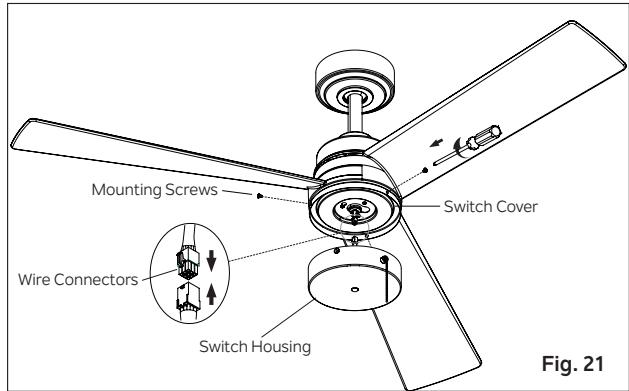

Fig. 21
Step 2. Raise the switch housing close to the fan, and push the square wire connectors together (one from the fan and one from the switch housing). **(Fig. 21)**
Step 3. Carefully push all the wires into the switch housing. Attach the switch housing to the switch cover with the mounting screws that were removed in **Step 1**. Make sure each screw is tight. **(Fig. 21)**